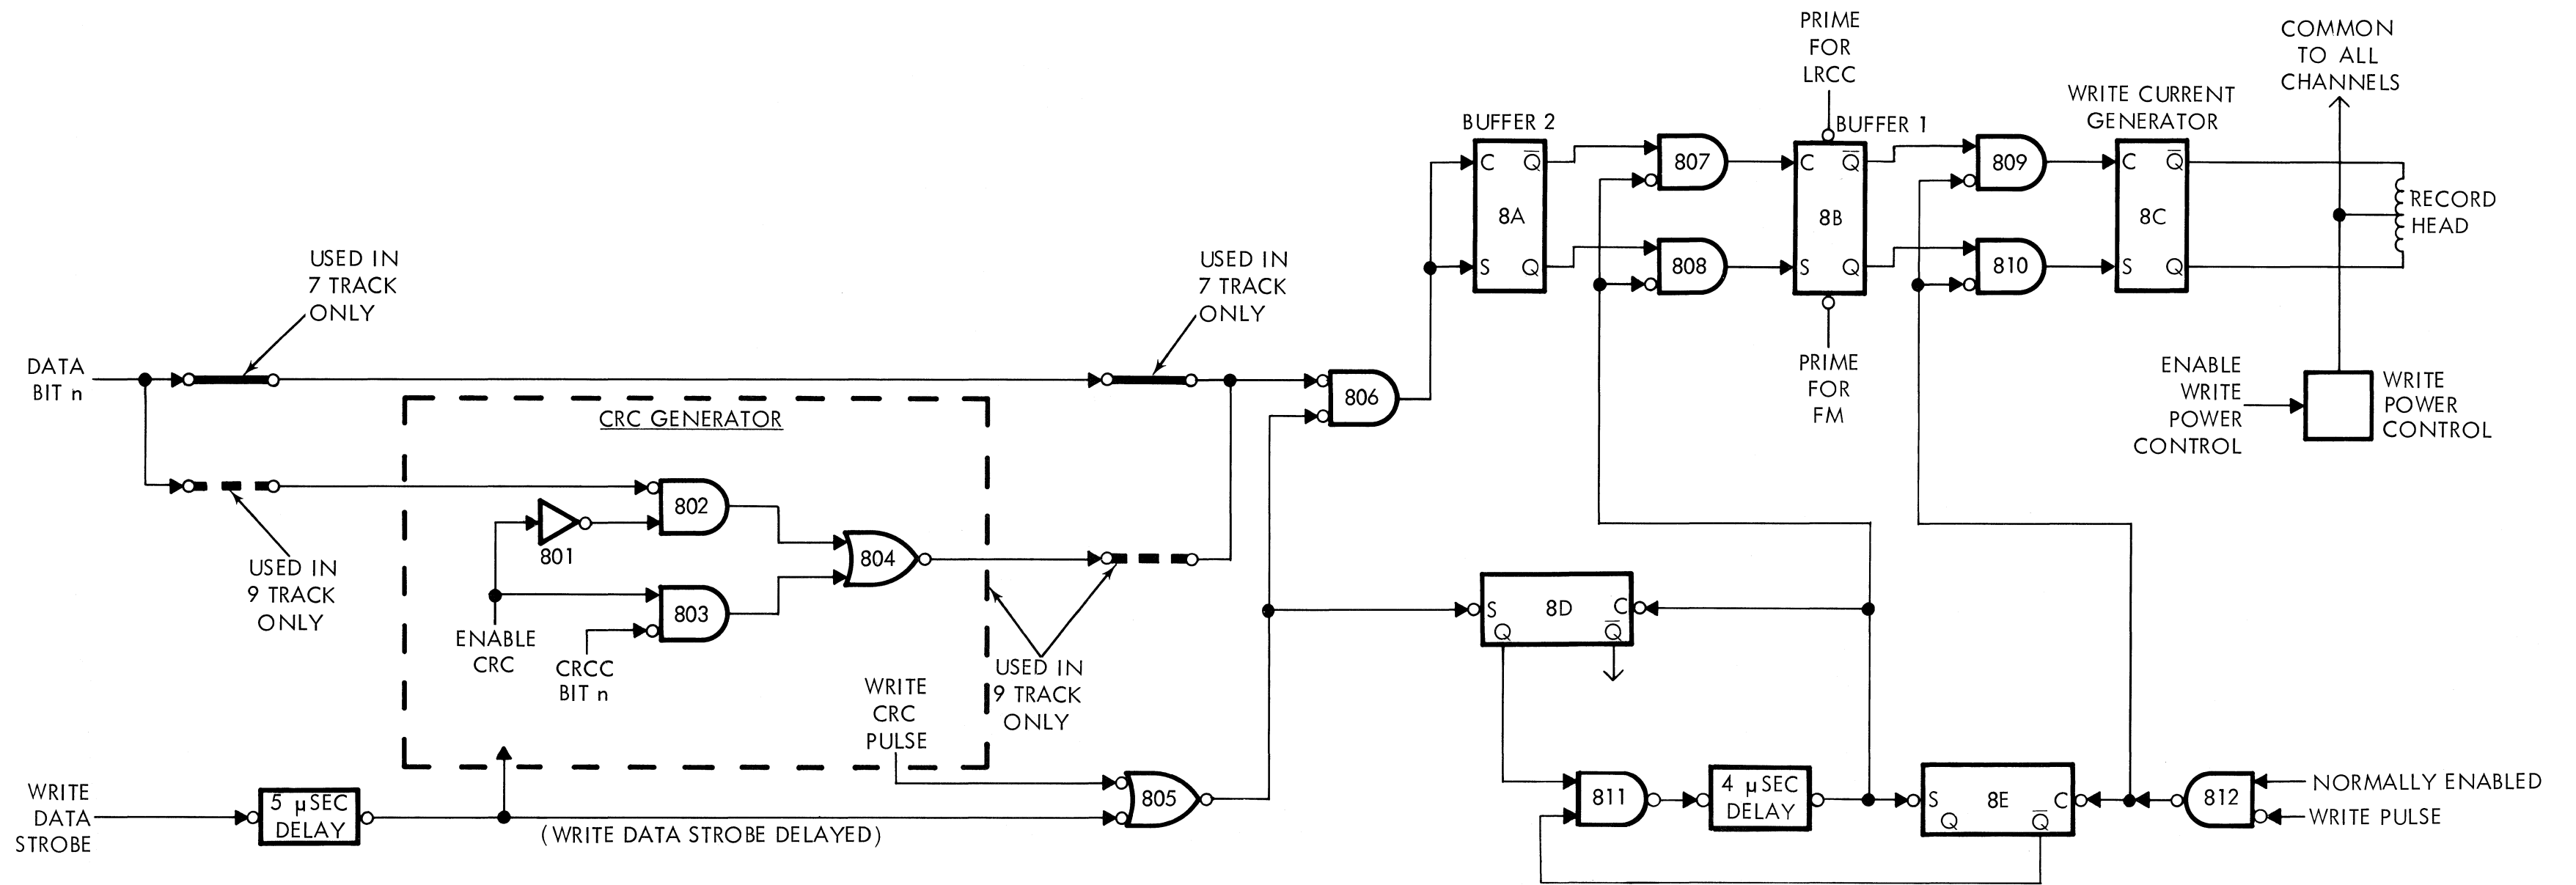

Figure 4-8. One Channel of Data Electronics and Controls
Figure 4-8 shows a logic diagram of one channel of data electronics together with the necessary control.
Included in the transport is a parity generation circuit (not shown in Figure 4-8) which can generate odd or even parity, depending on the setting of a switch and a special circuit to provide Binary Zero to BCD10 conversion. This may be required because zero in some systems is represented by all "zeros" on the data lines. If BCD recording with even parity is being used, an invalid character will result. Therefore, the special circuit is arranged to detect the all-zero input condition and force the "1" and "3" channels to a "1" state so that BCD10 is recorded. The circuits are detailed in Section V. This system is capable of accepting and recording data at a rate between 300 and 20,000 characters per second.
Flip-flops 8A and 8B (see Figure 4-8) comprise the two-stage input buffer and flip-flop 8C is the Write current generator. This generator, in conjunction with the center-tapped head, maintains the magnetization on the tape in the appropriate direction between changeovers as required by the NRZI format. In a 7-track system, data bit N is routed directly to gate 806. In a 9-track system, data bit N is routed to the CRC generator. During data recording, gate 802 is enabled and the data bit transferred to gate 806 via AND gate 802 and OR gate 804. It is also used to generate the CRCC.
- (1) Sets flip-flop 14D (Plot 6) generating a DATA BUSY signal.
- (2) Sets flip-flop 14F (Plot 10) generating a COMMAND BUSY delay. (This COMMAND BUSY delay is used internally to ensure that tape motion has stopped before the transport will act upon the next motion command.)
- (3) Triggers single-shot 14SS4 via gate 1407. The single-shot time is the duration of four character spaces and at the end of this time a pulse is generated (Plot 12). This output (PRIME for LRCC) is used to reset all the Buffer 1 flip-flops in the recording electronics (see Figure 4-8) using the leading edge. It is also used to trigger the 15- $\mu$ second single-shot 14SS5 via gates 1412 and 1413. An additional WRITE PULSE is generated (Plot 8) in this way and is used to write the LRCC on the tape.
- (1) Sets flip-flop 14D (Plot 6) via gates 1418 and 1407, informing the controller that data is busy.
- (2) Triggers single-shot 14SS4 via gates 1418 and 1407. The single-shot time is the duration of four character spaces and at the end of this time a pulse is generated (Plot 12). This output (PRIME for LRCC) is used to reset all the Buffer 1 flip-flops in the recording electronics (Figure 4-8), using the leading edge. It is also used to trigger the 15- $\mu$ second single-shot 14SS5 via gates 1412 and 1413. Thus, an additional WRITE PULSE is generated (Plot 8) to write the LRCC on the tape.
At the end of the File Gap time, flip-flop 14C is reset and the  $\bar{Q}$  output goes high. This edge is transmitted by inverter 1405 and differentiator 14d6, which generates a pulse (Plot 14). This pulse (PRIME for FM) is used to set the relevant flip-flops (depending on whether the 7-track or 9-track modes are operational) in the recording electronics (Figure 4-8), using the leading edge. It also triggers single-shot 14SS5 via gates 1412 and 1413, generating a WRITE PULSE which is used to write the File Mark on the tape.